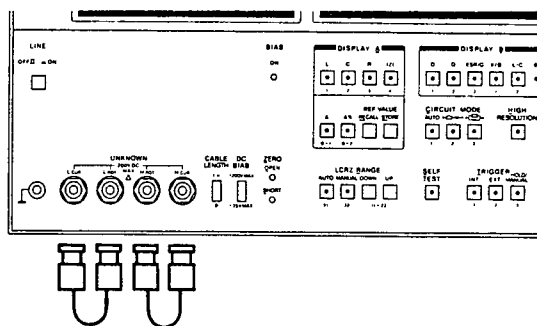

Figure 4-3. Self Operating Test Setup.
2. Connect LCUR and LPOT terminals with a BNC to BNC cable as shown in Figure 4-3. Similarly Connect HCUR and HPOT terminals.